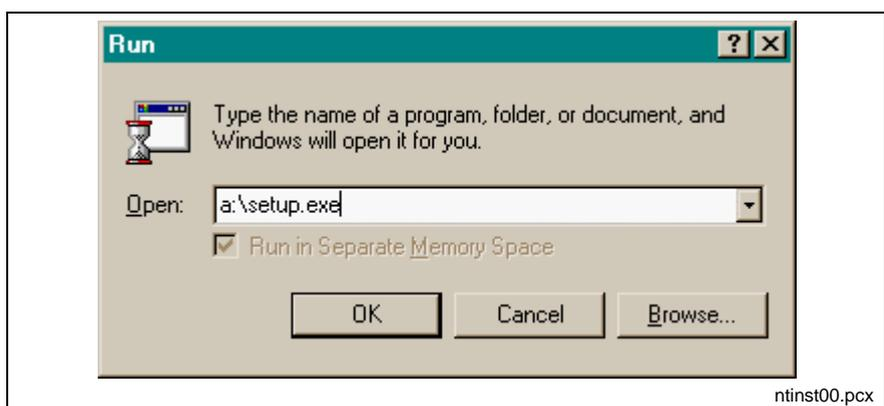

Figure 6-1: WindowsNT dialog box "Execute"
- Figure 6-1: WindowsNT dialog box "Execute" 6-2